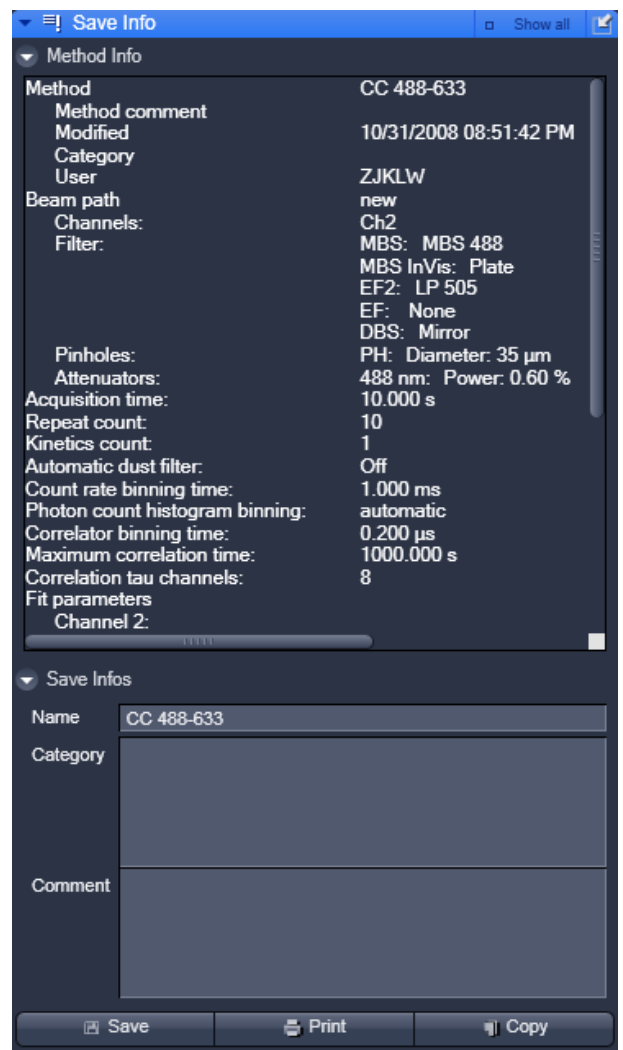

Fig. 76 Save Info panel
- The **Save Infos** window (Fig. 76) will allow you to save the settings. You can save the method by pressing the **Save** button. If the method name exists already, the system will prompt you to confirm overwriting the old method. Press **Yes** to overwrite, **No** to keep the old method settings. If the system settings deviating from default expectations, it will give a warning. For example, if no pinhole alignment was done or if a dual color experiment was set up with one channel or one laser, a corresponding warning will be displayed. Press **Yes** for continuing anyway, **No** for returning to the method without saving.